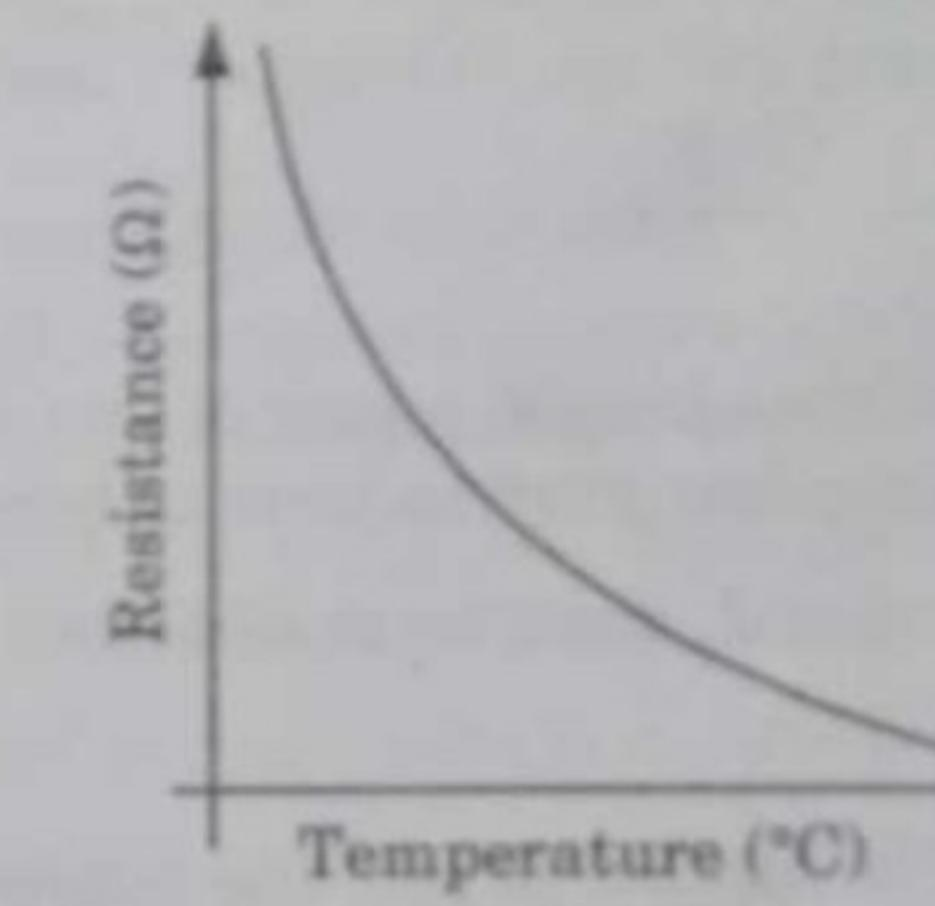

Fig. 2.2.1.
4. The relationship between a thermistor's temperature and resistance is non-linear. A typical thermistor graph is shown in Fig. 2.2.1.